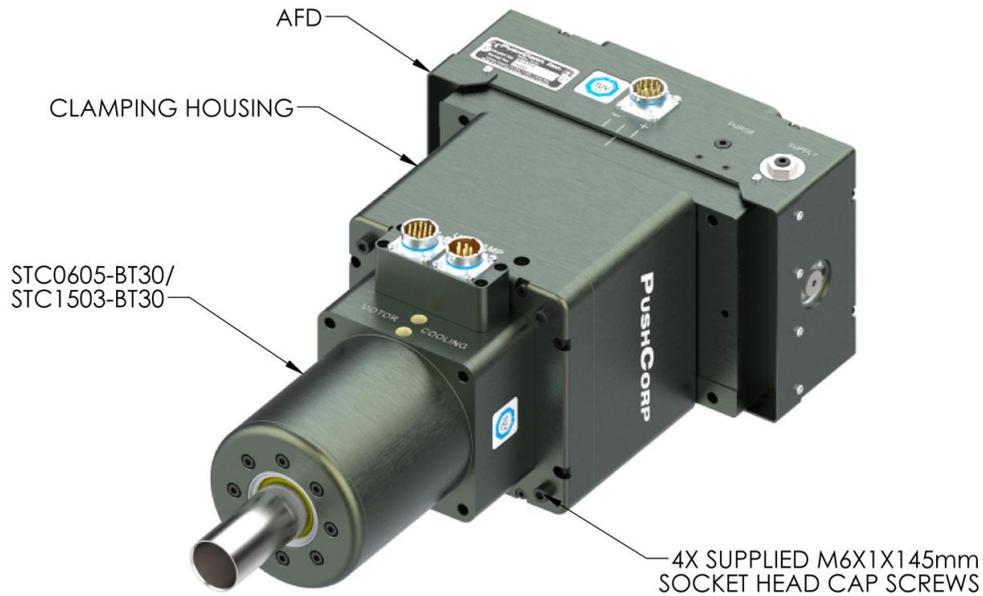

Figure 2: Spindle Motor Perpendicular-Axis Configuration
To attach the motor to an AFD in a Perpendicular-Axis configuration, position the Clamping Housing/Mounting Plate over the Carriage as shown in Figure 2. Then secure the unit using four (4), M6x1 Socket Head Cap Screws (length is dependent on motor SMxxxx = 25mm, STCxxxx-BT30 = 145mm). Tighten the fasteners to the torque specified in Section 4.0. 5mm Dowel pins can be inserted and glued into the Carriage to align the motor. The Clamping Housings and Mounting Plate have pre-drilled clearance dowel holes for this configuration.